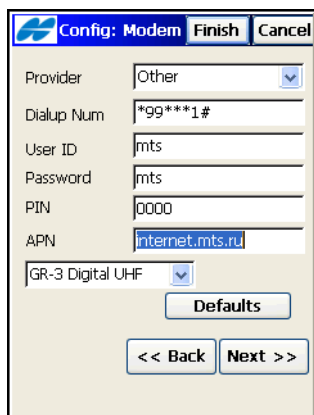

Figure 4-40. Config: Modem Dialup Info
7. Use the **Config: Modem Dialup Info** screen (Figure 4-40) to input Internet User ID, Password, PIN number, and APN (Access Point Name). If connected to a HiPer or a GR-3 receiver, select this.